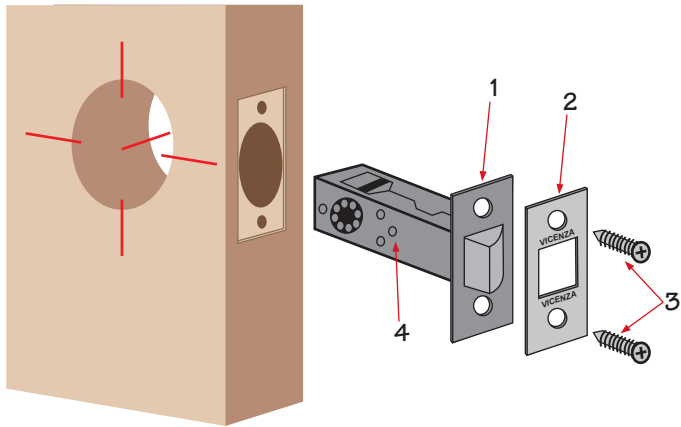

FIGURE 1
1. Remove C-clip from side of latch, inside room to be locked. Insert latch into 1" edge bore of door. Secure face-plate over latch button with two wood screws. (Figure 1)